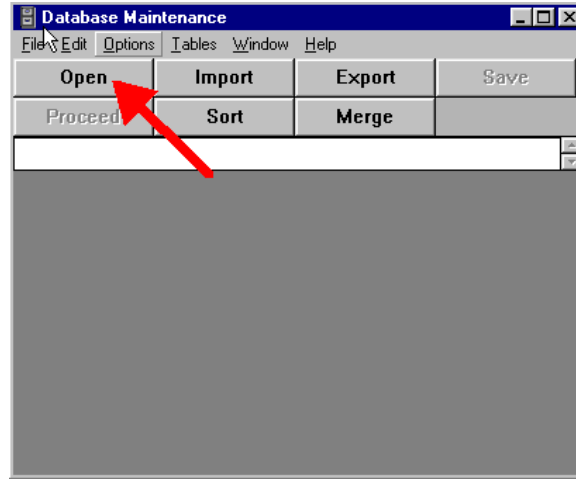

Figure 5-2
5.2.3. Click [**Open**]. (Figure 5-2)